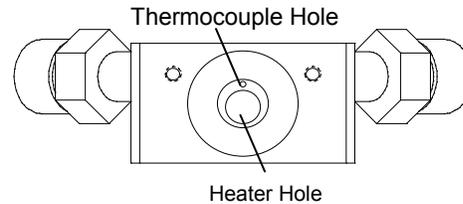

Figure 38 • Installing the HVC Thermocouple.
- Slide the new thermocouple into the small hole in the HVC (see Figure 38) until it hits the stop. Make sure that the heater and thermocouple are inserted completely into the body before re-securing the wires.